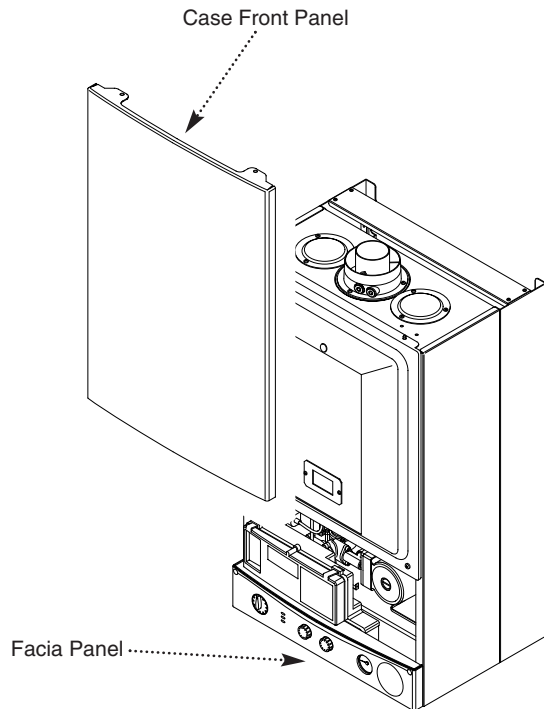

Fig. 45
1. Hinge the facia panel upwards and engage the securing screws. Refit the case front panel and tighten the screws (Fig. 45).